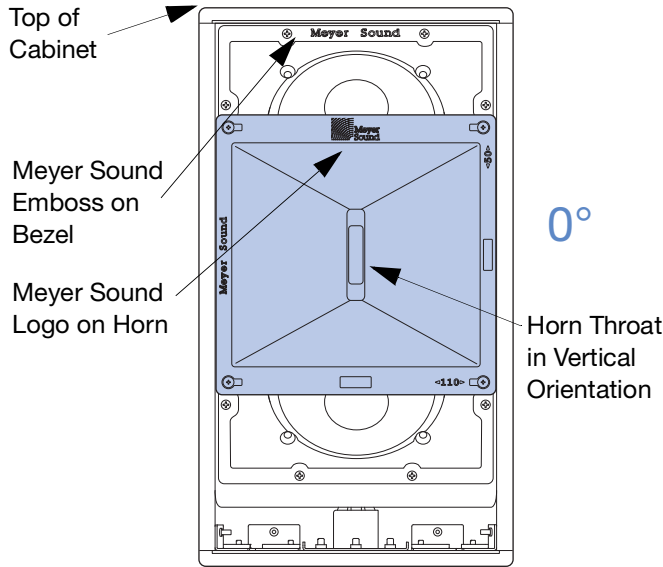
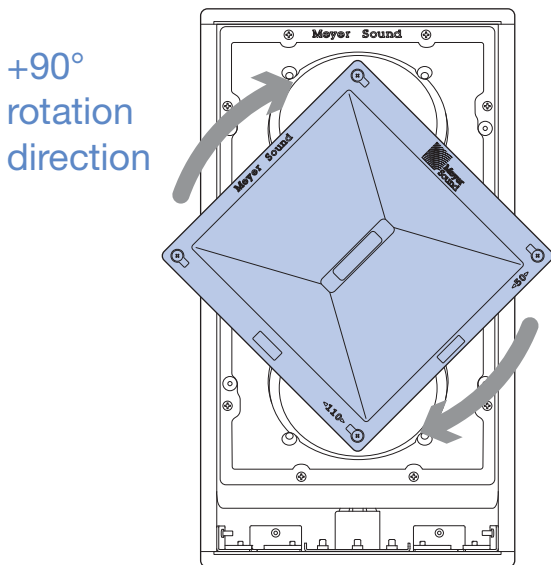
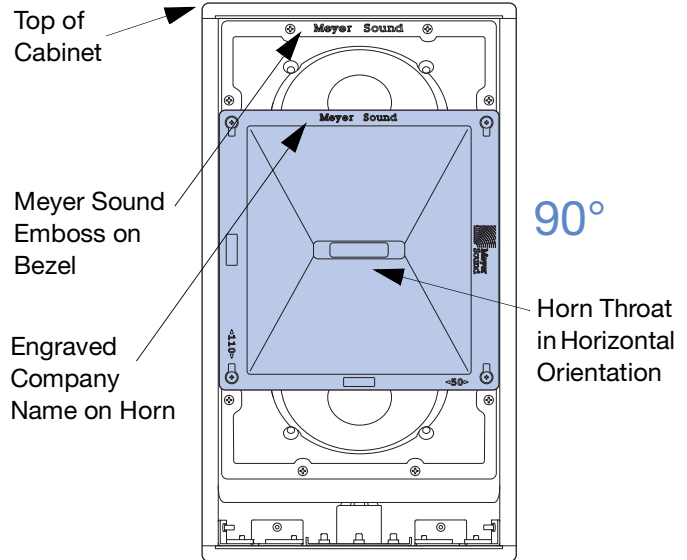
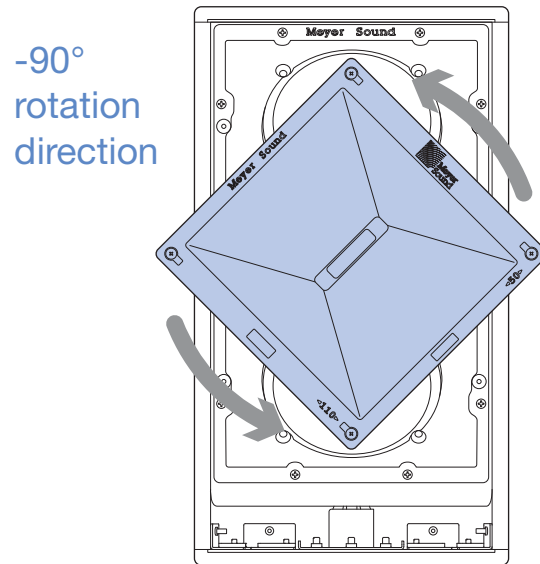

Figure 24: 110° horizontal by 50° vertical horn orientation
Figure 25: **Clockwise** Rotation of Horn to achieve 50° horizontal by 110° vertical horn orientation
Figure 26: 110° horizontal by 50° vertical horn orientation
Figure 27: **Counter-clockwise** Rotation of Horn to achieve 110° horizontal by 50° vertical horn orientation
3. Determine the present orientation of the horn by checking the horn throat orientation when the speaker is vertical with the port at the bottom. The cabinet is vertical when the Meyer Sound Logo on the horn and on the bezel are at the top (Figure 24).
4. If the present orientation is 110° horizontal by 50° vertical (**horn throat is vertical**, see Figure 24 on page 30), the horn may only be rotated in the **clockwise** direction (Figure 25 on page 30).
**CAUTION:** Do not pull the horn out to rotate and do not use force. It should rotate smoothly if rotated in the correct direction. The rotation angle is NOT continuous. It is limited to 90° of travel between the two orientations where the Meyer Sound emboss on the bezel lines up with either the company logo (Figure 24) or the engraved company name (Figure 26) on the horn.
- If the present orientation is 50° horizontal by 110° vertical (**horn throat is horizontal**, see Figure 26), the horn may only be rotated in the **counter-clockwise** direction (Figure 27).